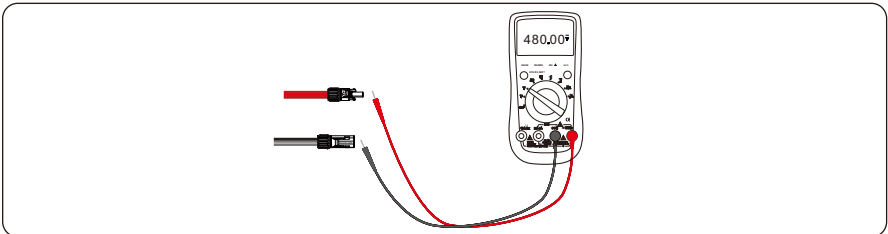

Figure 5.13 Checking the voltage of every route Strings
**Step 5** Measure the voltage of every route Strings by using a multimeter. Ensure that the polarities of the DC input power cables are correct, as shown in Figure 5.13.